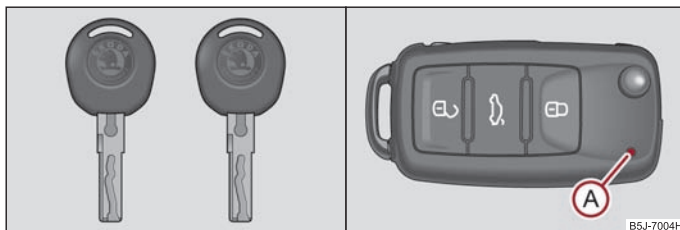
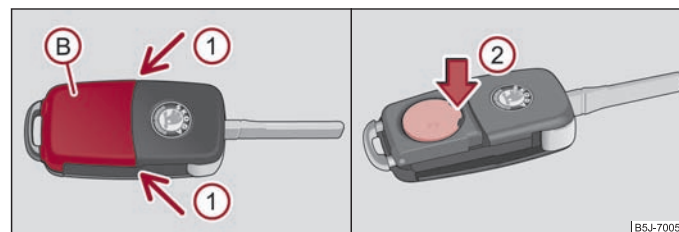

Fig. 23 Set of keys without remote control / set of keys with remote control key
Fig. 24 Remote control key – remove cover / remove battery
Two keys are provided with the vehicle. Depending on the equipment, your vehicle can be equipped with keys without radio remote control ⇒ fig. 23 - left, or with radio remote control* ⇒ fig. 23 - right.
Each remote control key contains a battery which is housed under the cover (B) ⇒ fig. 24. If the battery is discharged, the red indicator light (A) does not light up after pressing a button on the remote control ⇒ fig. 23. Change the battery as follows:
- Carefully press off the cover at the points of the arrows (1).
- Remove the discharged battery from the key by pressing the battery downwards at the point of the arrow (2) ⇒ fig. 24.